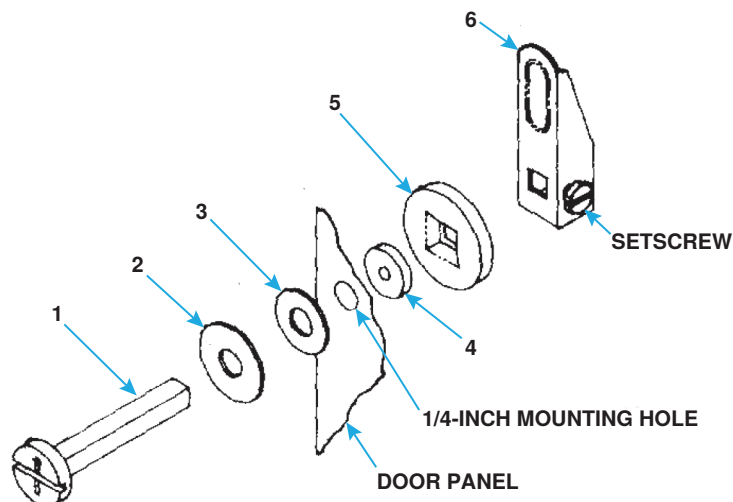

Figure 64. Door Latch Assembly
3. Assemble door latch shaft (1), trim washer (2), and outer neoprene washer (3) and insert assembly into 1/4-inch mounting hole through outer side of door panel as shown in Figure 64.
4. Push smaller diameter inner neoprene washer (4) onto door latch shaft (1) and against inside of door panel.